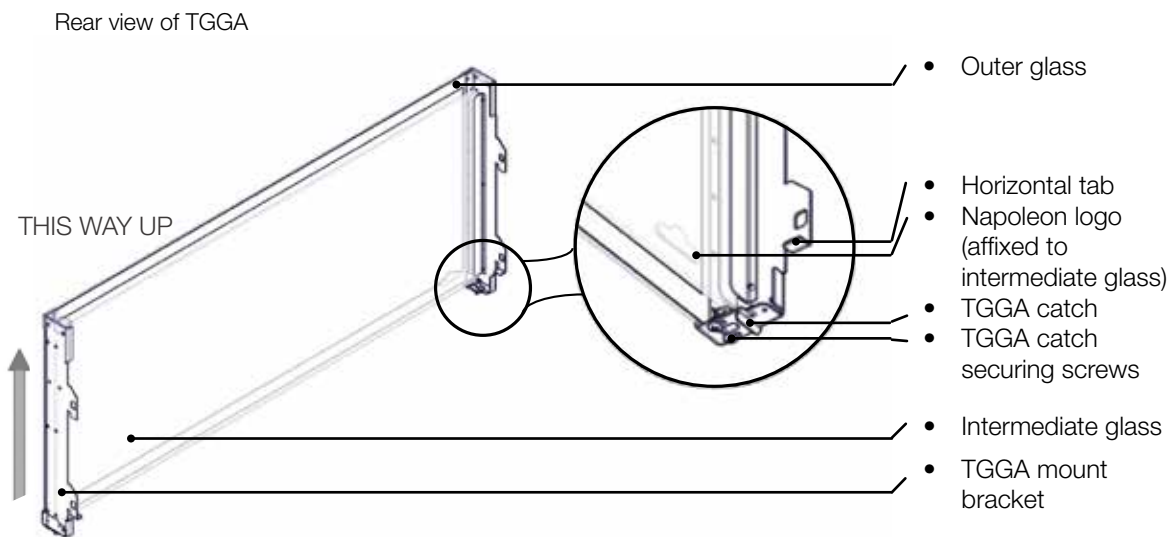

Fig. 1
2. Ensure to handle the TGGa as shown (**Fig. 1**) as the floating intermediate glass might fall out of the assembly if handled incorrectly.